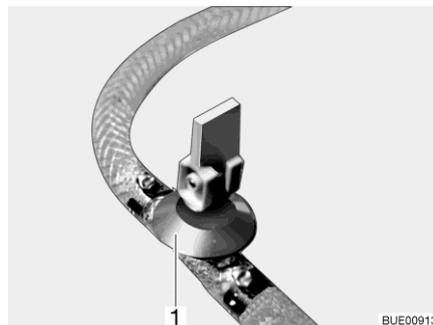
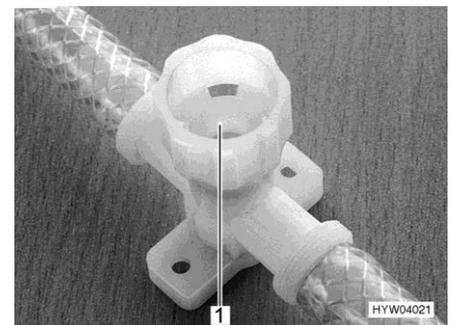

Fig. 269 Drain cock (with rocking lever)
Fig. 270 Drain cock (with twist cap)
- Close all drain cocks. To do this, position the drain cock's rocking lever (Fig. 269,1) horizontally or turn the drain cock's cap (Fig. 270,1) in a clockwise direction.